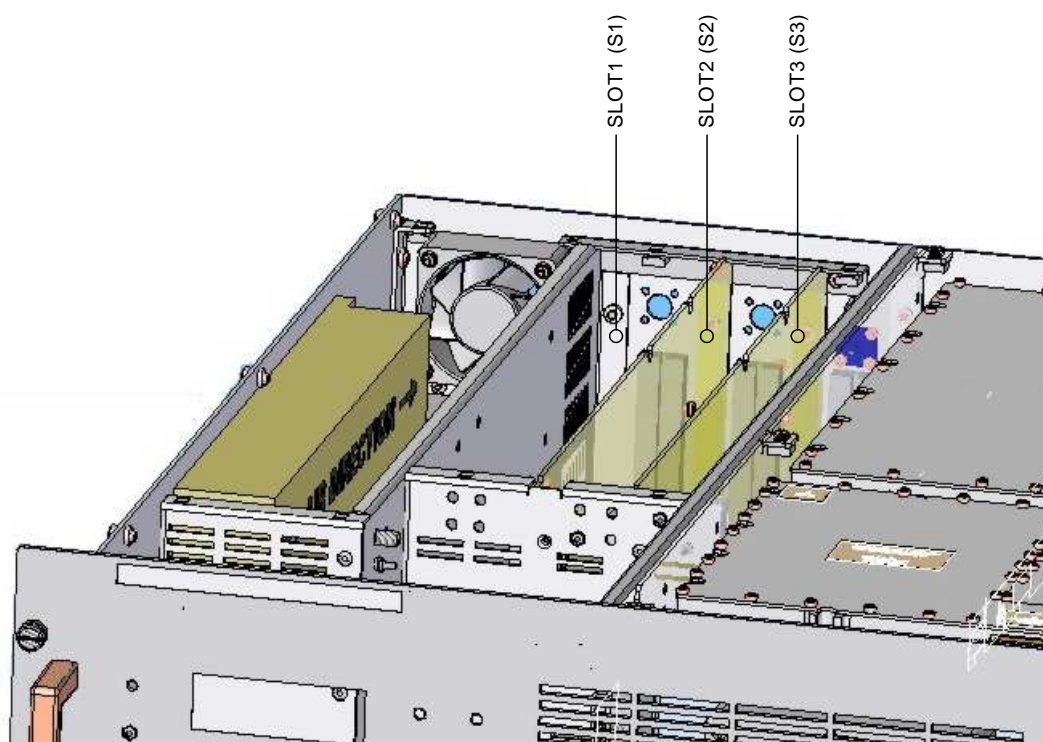

Figure 10.- RF slots nomenclature.
- **Complete block diagram:** The elements and connections between them of the whole system are sketched in Figure 10. This schematic does not contain information about the signals transmitted between elements (modules and boards) of the unit. This schematic contains all the input and output connectors of the unit. For clarity purposes, the information of the signals has been divided in three diagrams: RF signals, power supply signals and measurements and control signals.